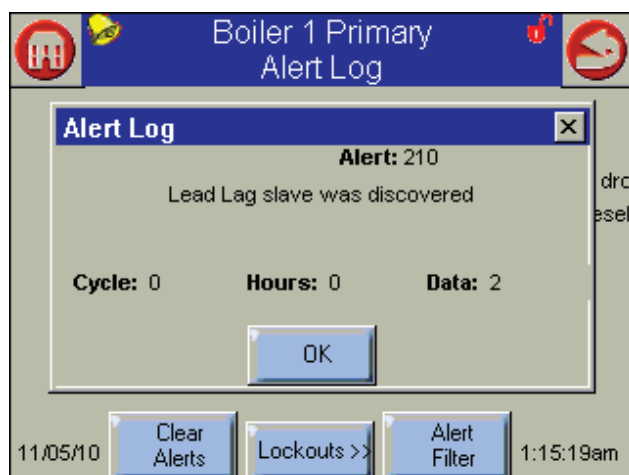

Fig. 131 – Alert Detail Screen
- To get more information on a particular alert, touch the entry for that alert on the screen. Figure 131 shows the kind of display the system will present.